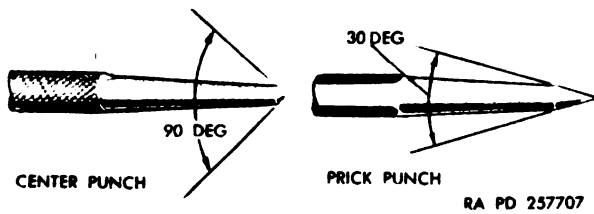

Figure 237. Cone point punch angles.
b. *Cone Point Punches.* Center and prick punches are ground to cone points. Correct point angle for center punches is 90° ; point angle for prick punches is 30 degrees (fig. 237). These angles may be changed for special purposes.